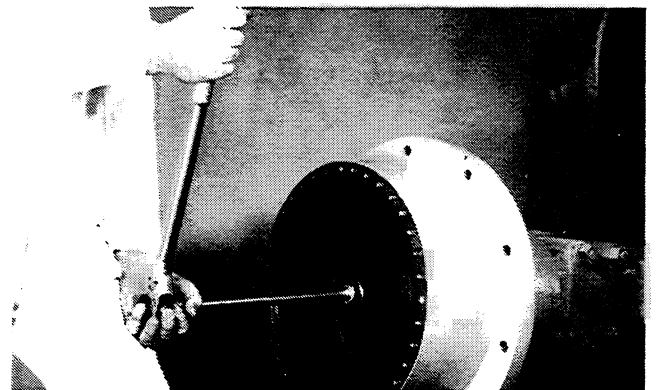

Figure 5:
7. Loosen the adjusting nut, nut lock and internal gear hub retaining washer (Fig. 5).